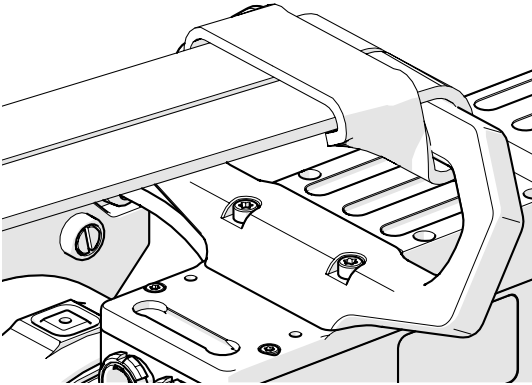
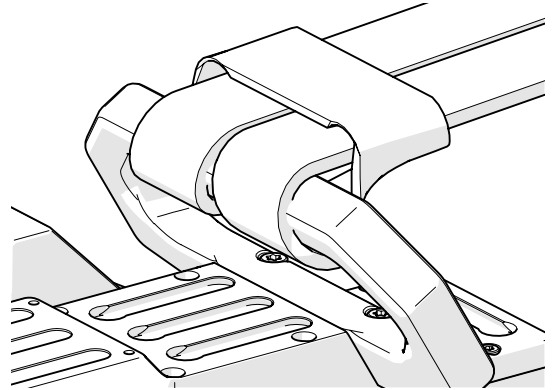

Fig. 41 - Attach the lifting sling with a choker hold
Fig. 42 - Attach the lifting sling with a choker hold
1. Wrap the supplied lifting sling around the handle of the **TRIPOD** using a choker hold knot (*Fig. 41*) and (*Fig. 42*).